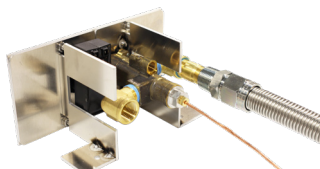

Figure 13: Connecting the Thermocouple
- 5.1 The Thermocouple connects to the female threaded bushing of the Valve Assembly. Thread the Thermocouple in place, tighten with a 9mm wrench, and confirm it is firmly seated. **{See Figure 13}** Do not use pliers as this can put excess pressure on the connection, which could damage the thermocouple.